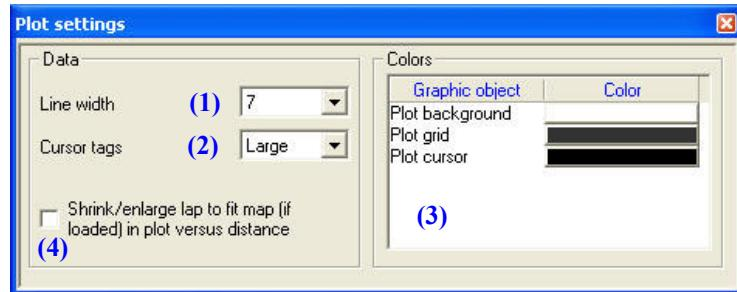

Fig. 4.14 – Plot settings window
The layout of the view for the Plot settings window is shown in Figure 4.14 and described in the following chapters.
- To change the graph line width, please select the “line width” menu, shown as (1) in Figure 4.14, and choose the desired line width among the 6 possible values: 1 (the narrowest), 2, 3, 5, 7 and 9 (the widest).
- To change the cursor tag (i.e. the horizontal line which is shown on the diagram’s vertical cursor when a graph is met), please select the “Cursor tags” menu, shown as (2) in Figure 4.14, and choose the desired cursor tags among the 4 possible values: none, small (default value), large and full.
- To change the background (grid/cursor) colour, please select the “Colours” menu, shown as (3) in Figure 4.14, choose the desired graphic object you wish to change the colour and right click on the colour box. It will appear the “Colour window” previously described in chapter 4.7: please, refer to this chapter for further information.